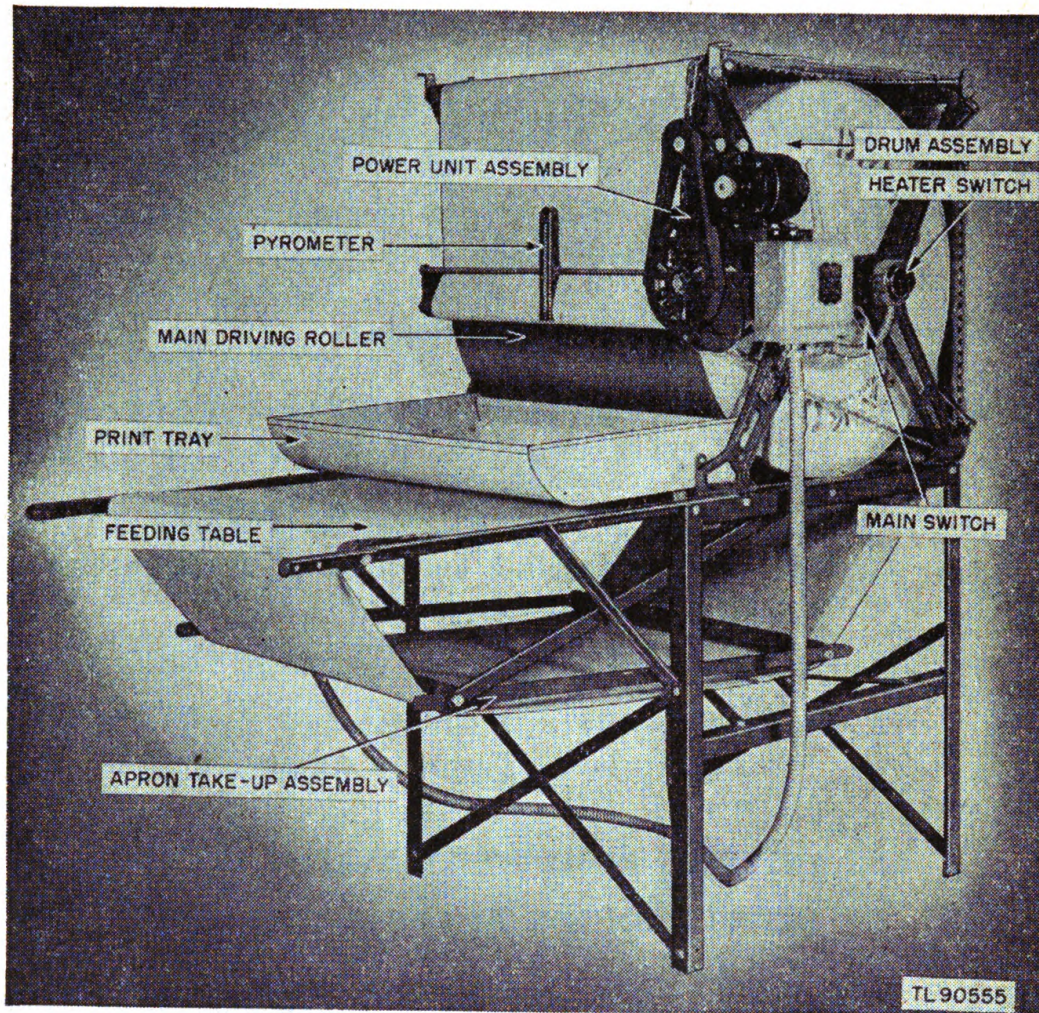

Figure 1. Dryer PH-176.
1. PURPOSE. Dryer PH-176 (fig. 1) is a complete, electrically operated unit for drying various weights and sizes of matte or semimatte photographic prints quickly and continuously. When set up for use, this unit is $63\frac{7}{8}$ inches long, $39\frac{1}{4}$ inches wide, and $61\frac{3}{4}$ inches high. Crated, it measures 35 by 39 by 42 inches and weighs 417 pounds.
2. COMPONENT PARTS. Dryer PH-176 consists of a base assembly to which are attached the feeding table frame (fig. 3) and apron take-up assembly (fig. 1); two side frames for the superstructure; a drum containing the heating unit assembly; the apron; the print tray; the power unit assembly; the safety or main switch box with two 30-ampere fuses and one 4-ampere fuse; one 30-ampere, 125-volt, porcelain base rotary type switch snap with settings for HIGH, MED, LOW, and OFF; and the roller assemblies.
It is held against the drum, and is carried over the main driving roller (fig. 1), standard drive rollers, and feeding table rollers. This apron carries the prints to, and holds them against, the drum.
g. Apron Take-up Assembly. An apron take-up frame assembly carries two parallel idler rollers which ride on the lower run of the apron. The entire take-up assembly is swung from the base by two integral stays (fig. 1).
h. Print Tray. A print tray is mounted between the side frames and below the stripping rod to catch the prints as they are dropped from the drum (fig. 1).
(3) Next insert the feeding table roller (the longest of the rollers furnished) through the apron loop. Fasten it by sliding the roller rod through the holes at the end of the feeding table arms. Use the holes nearest the drum. Later, when the apron has been used long enough to stretch, the feeding table roller can be advanced to the second, third, or fourth pair of holes to take up the slack.
(4) Insert the two take-up rollers inside the apron loop below the feeding table arms. Fasten the two rollers together with the horizontal bars. At the same time these bars are attached, fasten the shorter stay bars outside the horizontal bars to hold them in position. Note that the ends of the horizontal bars extend beyond the take-up rollers and thus act as a guide for the apron (fig. 1).
f. Print Tray and Pyrometer. Fasten the print tray (fig. 1) to the lower forward arms of the X-shaped side brackets with the three small bolts and nuts at each end of the tray. Snap the pyrometer